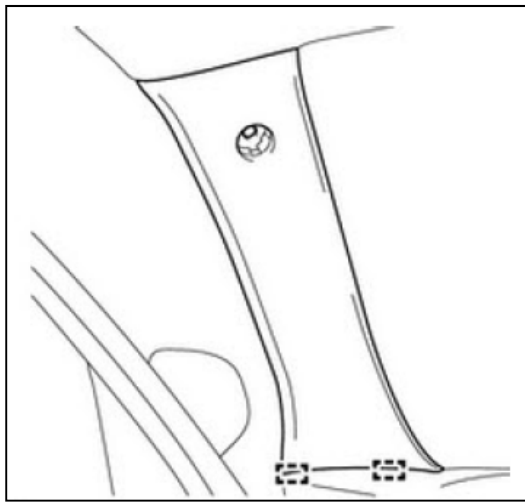

Figure 19A
19. Install Attach the 2 guides and clip to install the front pillar garnish LH. Install the bolt. Attach the 2 claws to install the No. 1 front pillar garnish cover LH. See Figure 19A and 19B.